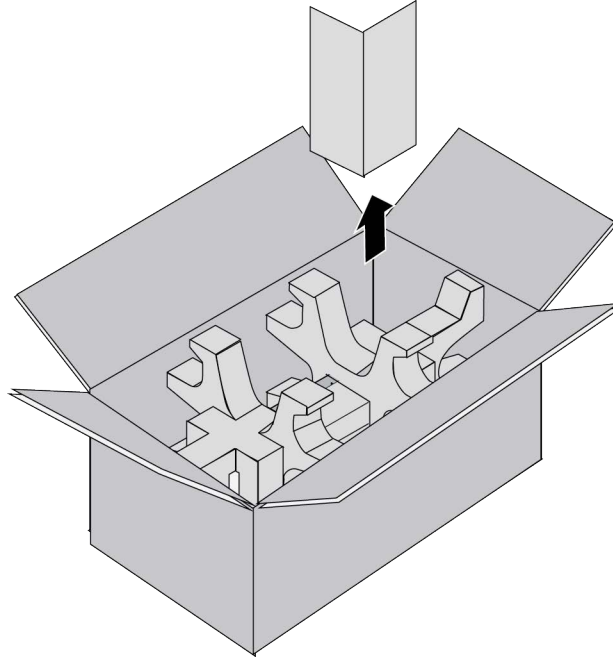

Figure 35. Removing the Partition from the Power Supply Shipping Box
2. Remove the partition from the shipping box. Refer to Figure 35.